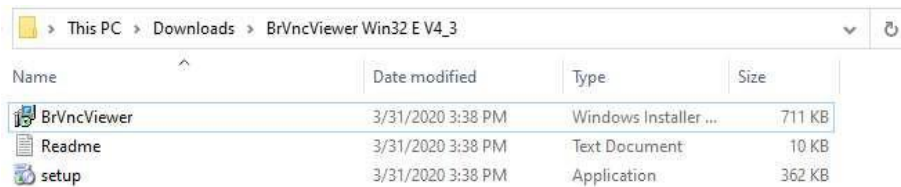

Figure 12: Unzipped/Extracted folder
- Click on the BrVncViewer in the unzipped folder (Windows Installer File Type) (Fig: 12) and install the application on the local windows machine.